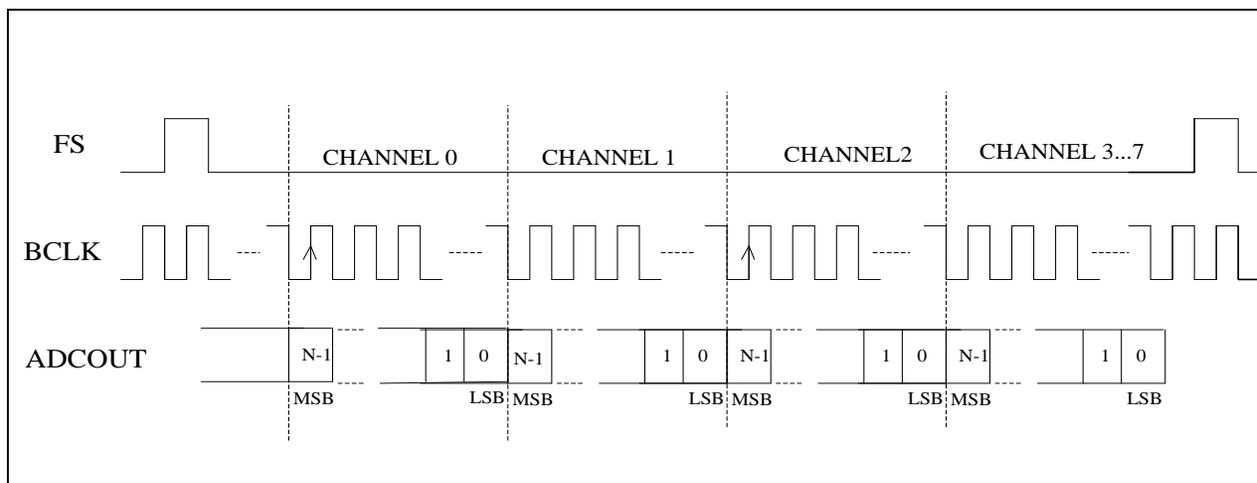

Figure 34 PCM Time Offset Audio Data
Normally, the DAC and ADC data are clocked immediately after the Frame Sync (FS). In this mode, audio data are delayed by a delay count specified in the device control registers. The Channel 0 MSB is clocked on the BCLK rising edge defined by the delay count set in LEFT_TIME_SLOT_TSL0T_L0_REG0XF[9:0]. The subsequent channel’s MSB is clocked on the next BCLK after the LSB of the previous channel. This can be seen in **Figure 34**.